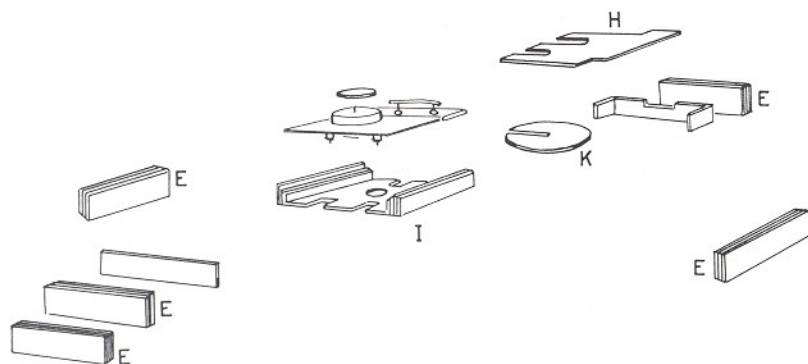

Fig. 3. Additional packing material for TD-150 A and TD-150 turntables.
6. Remove spacers F and G and take the outer turntable platter out of the box (see Fig. 3).